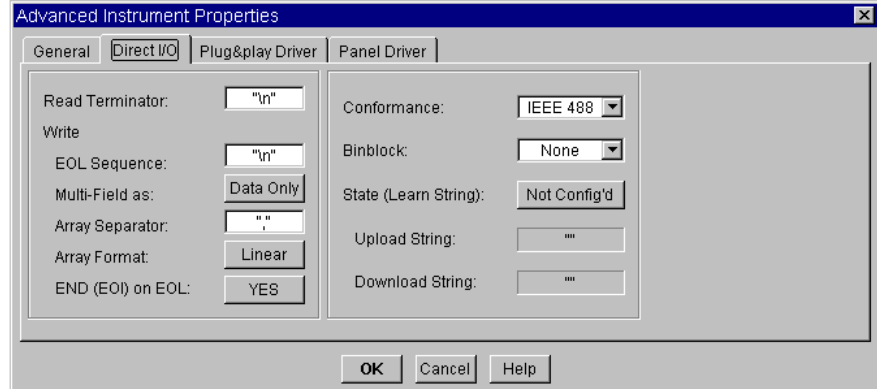

Figure 92 The Direct I/O Configuration Folder
- 3 Click on **Advanced**. Select the Direct I/O folder as shown in Figure 92. Look through the options available, then click **OK** to return to Instrument Properties, then **OK** again to return to the Instrument Manager.